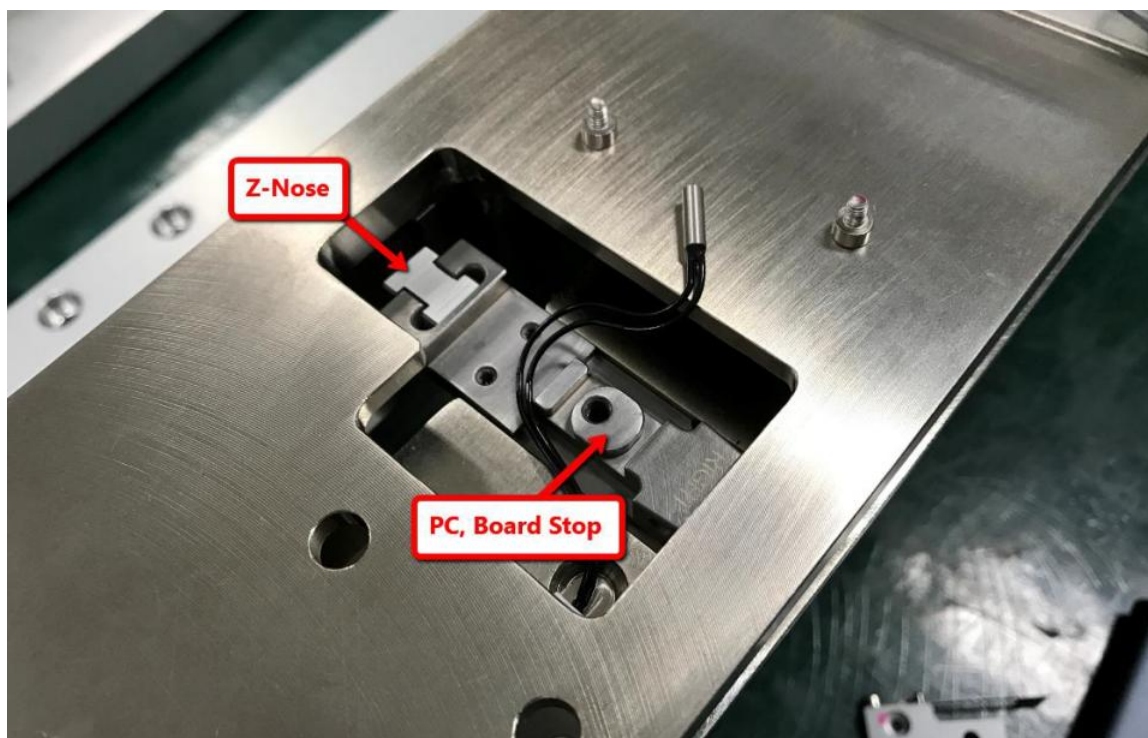

Figure 8 PC, Board Stop
2. Gently slot PC,board stop at Z-Nose as Figure 8